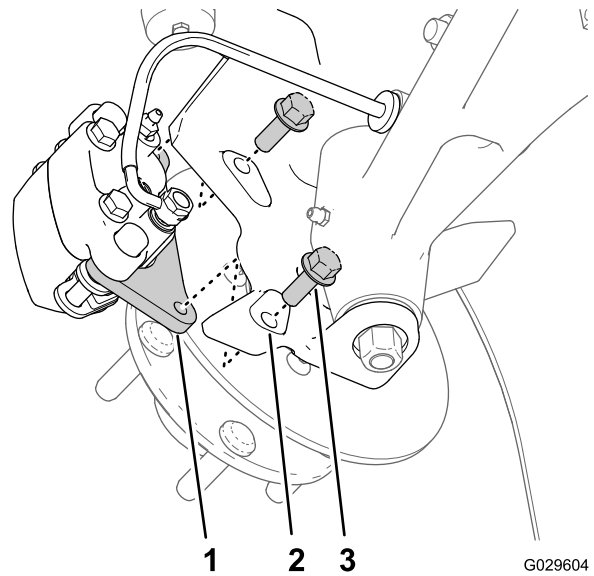

Figure 27
3. Remove the flange-head bolts (3/8 x 1 inch) that secure the bracket for the brake assembly to the spindle and separate the brake from the spindle (Figure 27).
2. Align the brake pads to either side of the rotor (Figure 27) and the holes in the caliper bracket with the holes in the brake mount of the spindle frame (Figure 31).
3. Assemble caliper bracket to the spindle frame (Figure 27) with the 2 flange-head bolts (3/8 x 1 inch), and torque the bolts 47 to 54 N-cm (35 to 40 ft-lb).